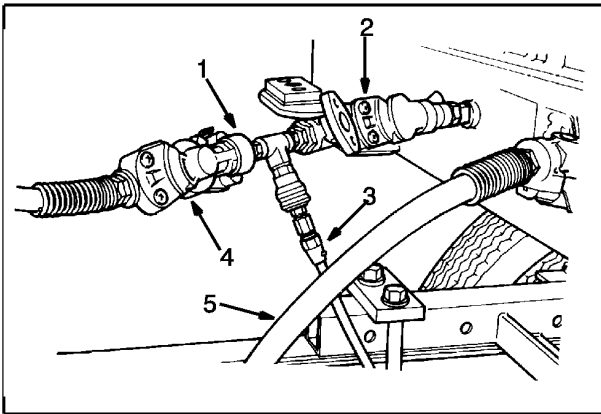

Figure 23 Double Gladhand Assembly Installation
- a. Install the double gladhand assembly in the tractor to trailer service line (Figure 23).